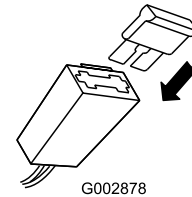

Figure 9
2. Insert the fuse (from the loose parts bag) into the fuse holder (Figure 9).